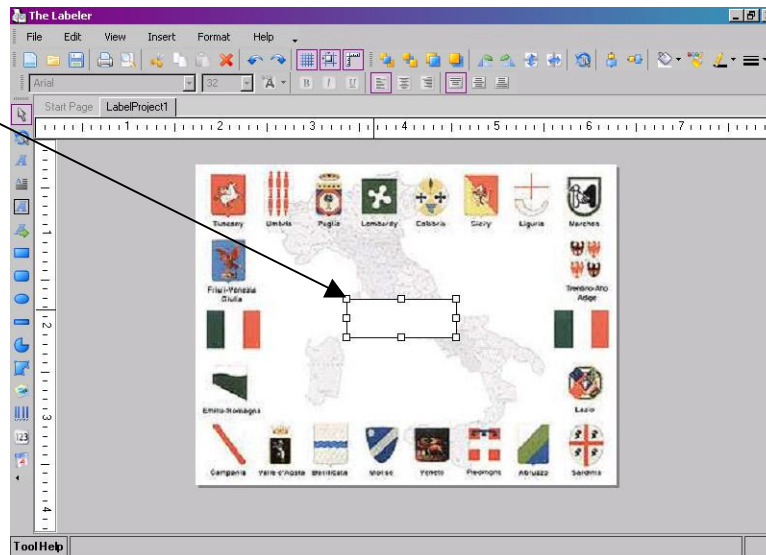

Figure 4.2.2.1: Select the shape to resize
2. Move your cursor over one of the white boxes that are located on each corner and in the middle on each side of the shape (see Figure 4.2.2.2).